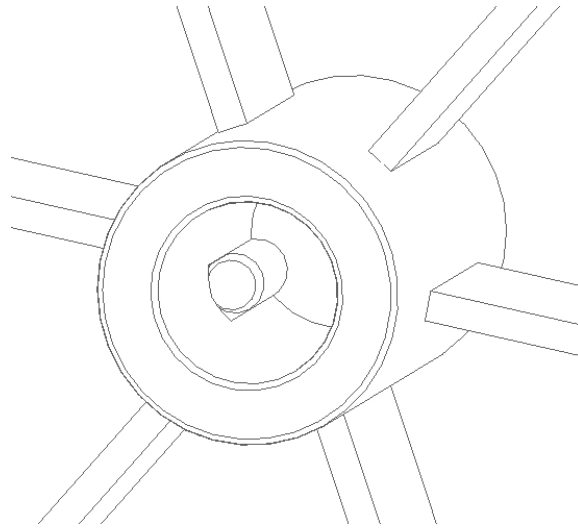

Figure 8. Location of the basket drive shear bolt
The basis and guarantee of reliable operation of the equipment and the car wash lies in the use of appropriate agents and consumables, as well as careful installation and connection of the electrical system. During the warranty period, with the prior consent of the manufacturer, minor repairs carried out by the user are permitted, e.g. replacement of the flexible breakaway drive element of the basket (Fig. 8), replacement of the wash hose or chamber seal
- inspection of the condition of the breakaway element of the basket drive base and mating surfaces (*Fig. 8.*)